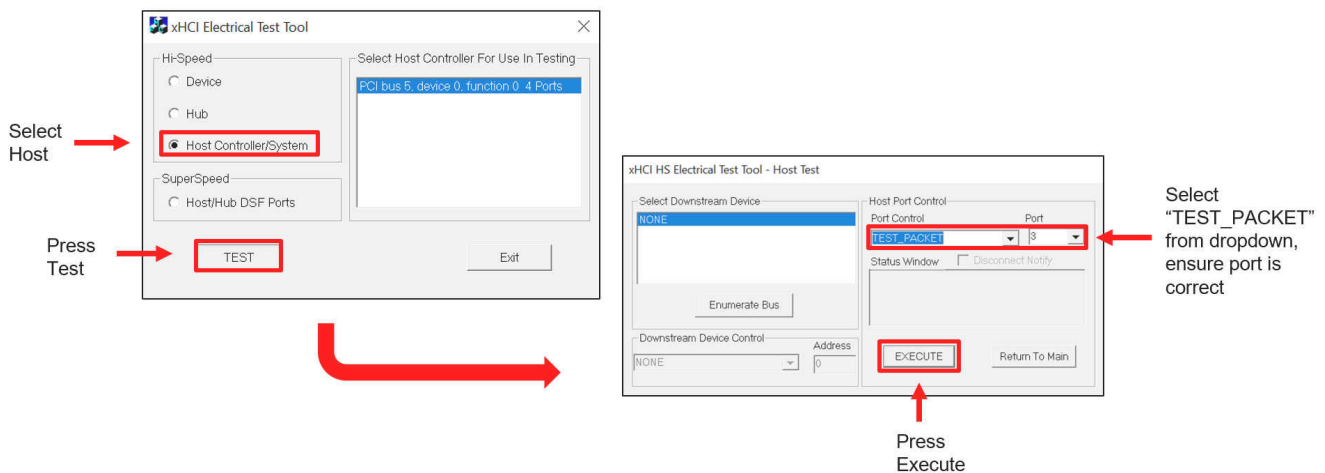

Figure 2-2. Host Mode Testing Software Configuration
4. Send high-speed test packets via xHCI Electrical Test Tool (Figure 2-2).